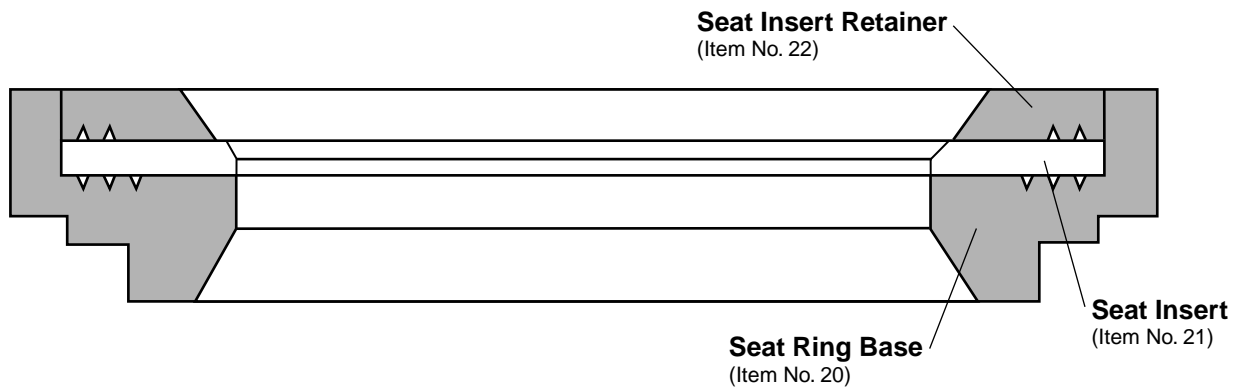

Figure 1: Soft Seat Assembly
Valtek control valves seal 'bubble-tight' with the use of a soft seat ring. The design consists of a seat ring base, an elastomer insert and a seat insert retainer (refer to Figure 1 for standard soft seat construction). The soft seat assembly is completely interchangeable with standard seat rings in any Valtek control valve body without further modifications. Standard insert materials include TFE Teflon, FEP Teflon, polyurethane, and KEL-F.
To disassemble valves with soft seats, refer to Figures 1 and 2 and proceed as follows:
To reassemble valves with soft seats, refer to Figures 1 and 2 and proceed as follows:
1. Using a new elastomeric insert, assemble the three soft seat components as illustrated in Figure 1.